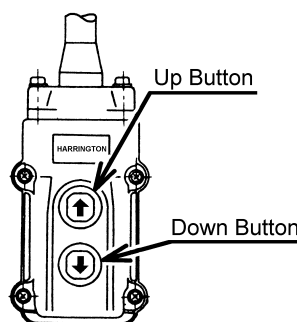

Figure 4-1 Push Button Pendant Control
- 4.3.2 Pendant Control – When using the pendant control depress the up button to raise the hoist or the down button to lower the hoist as shown in Figure 4-1 below. To stop motion release the buttons.